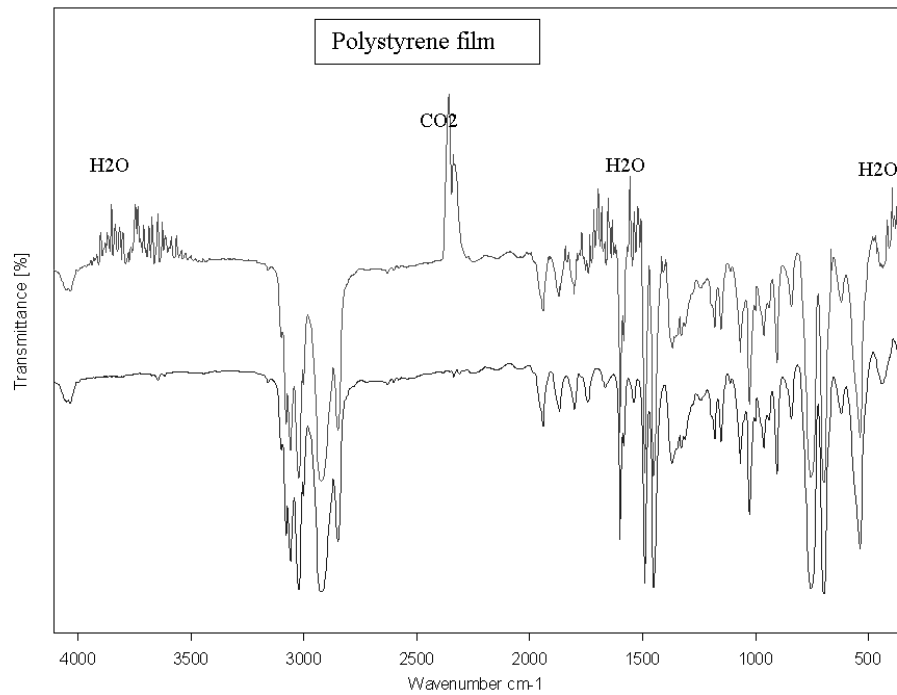

Figure 128: Atmospheric compensation effects
- The spectrum should not end at a wavenumber which shows strong absorption of atmospheric gases. In case of a H₂O compensation (see figure 128), the lower wavenumber limit **must not** be around 1700cm⁻¹.
Figure 128 shows atmospheric compensation effects.